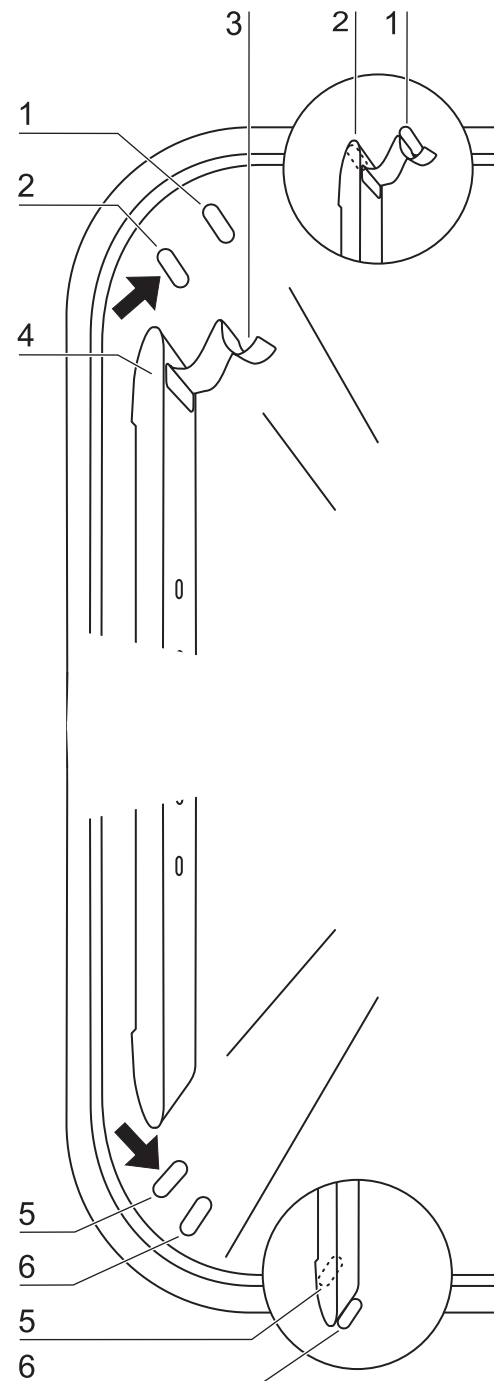

Fig. 12
**Fig. 12:** The support rails are held at the sides by embossing [2] and [5] and secured by the embossing [1] and [6]. The support rails marked with (◇) are inserted at the rear panel of the device with the lock springs [3] facing upward.